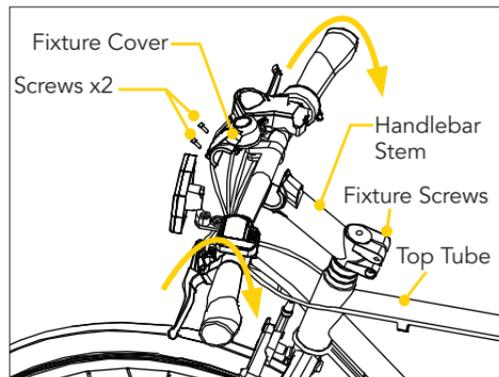

Fig. 4
Step 1. Use the included allen key to release the two screws of the Fixture Cover and remove the Fixture Cover from the handlebar stem. Put them aside (Fig. 4).
Step 5. After assembling the head, make sure the handlebar stem is in line with the top tube, then use the allen key to tighten the two fixture screws in place (Fig. 4).